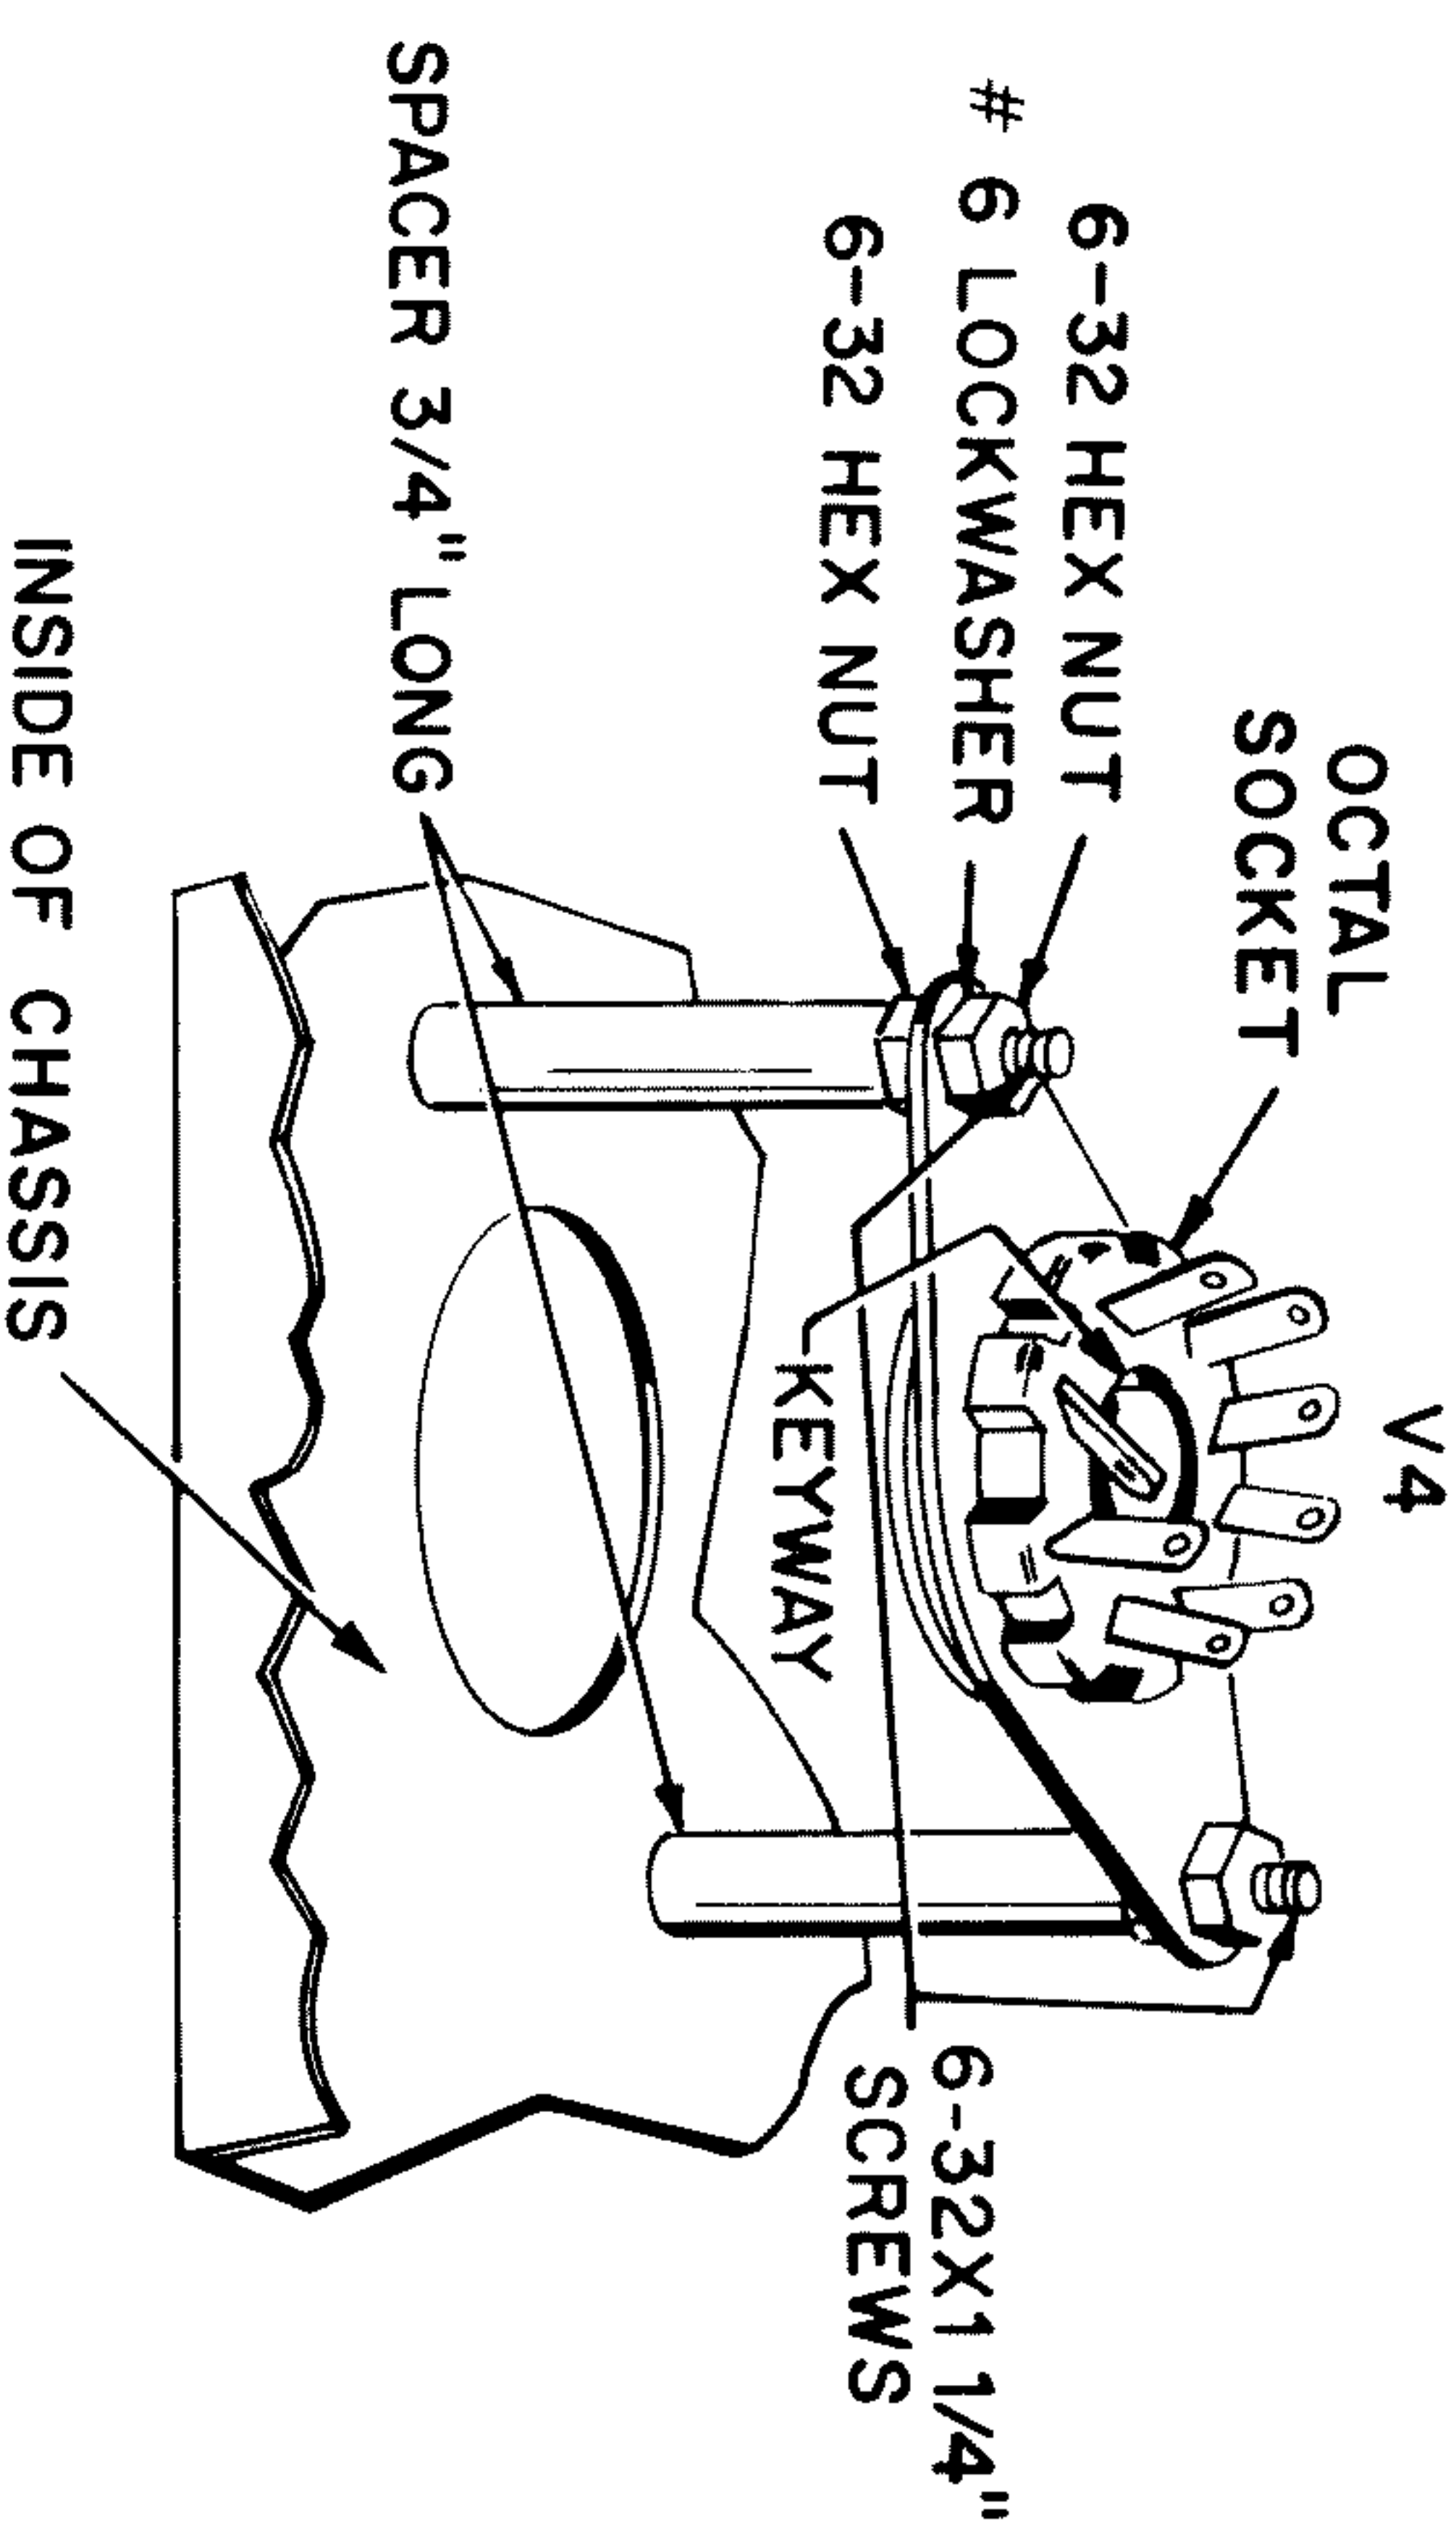

FIGURE 3
- ☒ 8-pin tube socket for V4 (largest socket) and two $\frac{3}{4}$ " spacers. See Figure 3. From the top of the chassis, insert a 6-32 $\times$ 1 $\frac{1}{4}$ " screw through each of the mounting holes. Place a $\frac{3}{4}$ " spacer and a nut over each of the screws. Then place the tube socket over the screws so the keyway points toward the back of the chassis. Loosely fasten with two #6 lockwashers and nuts.